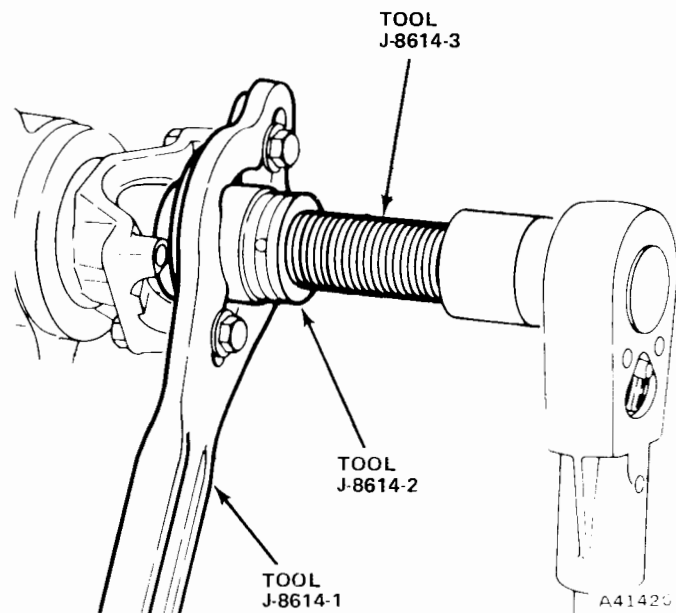
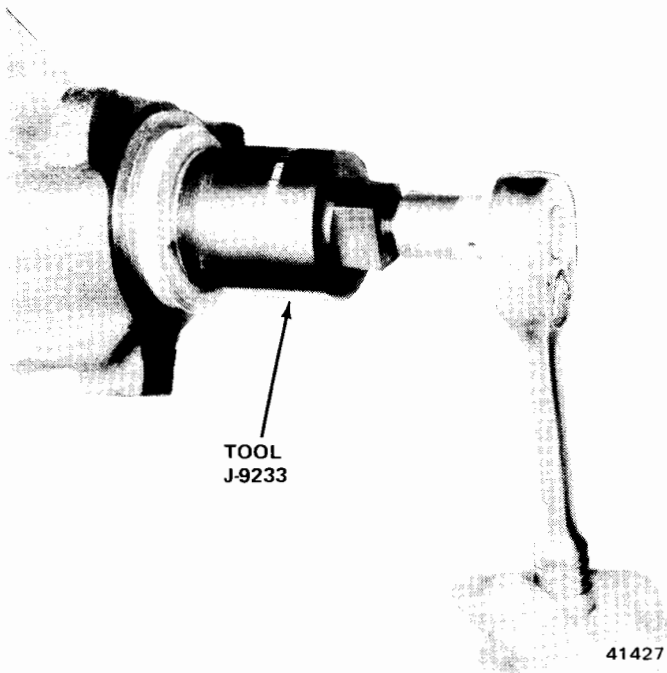
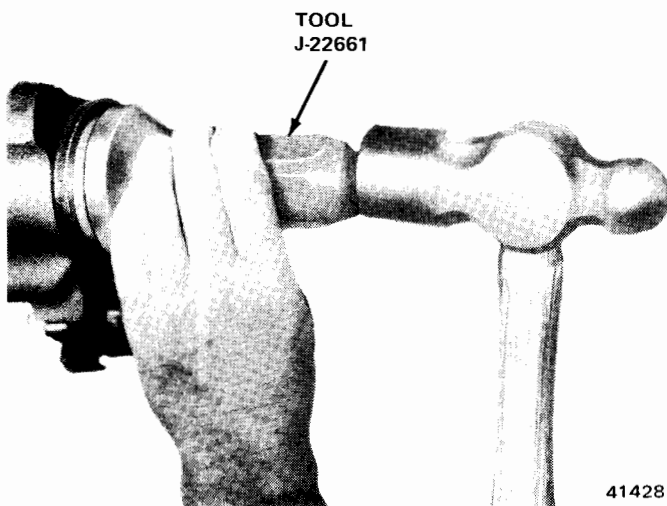

Fig. 10-26 Removing Rear Yoke
Fig. 10-27 Removing Pinion Oil Seal
Fig. 10-28 Installing Pinion Seal
- (1) Remove axle flange nuts, lockwashers, and split washers retaining axle shaft flange (fig. 10-26).
- (2) Remove axle shaft from housing.
- (4) Remove pinion nut. Use Companion Flange Holder and Remover Tool J-8614-1 or J-8614-10 and Companion Flange Nut Socket Tool J-22575 (fig. 10-26).
- (5) Mark yoke and drive pinion shaft to assure correct alignment at time of assembly.
- (6) Remove rear yoke using tools J-8614-10 or J-8614-1, -2, and -3 (fig. 10-26).
- (7) Inspect seal surface of yoke. If surface is damaged or grooved, replace yoke.
- (8) Remove pinion oil seal using Seal Remover J-9233 (fig. 10-27).
- (9) Before installing replacement seal, coat seal lip with rear axle lubricant.
- (10) Install seal using Pinion Oil Seal Installer J-22661 (fig. 10-28).